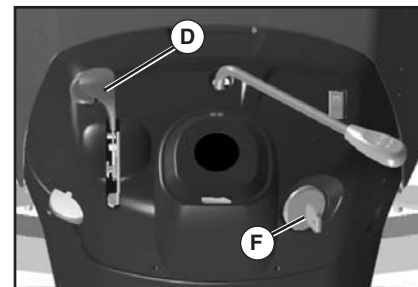

FIG. 6
### TO USE THROTTLE CONTROL (D) (See Fig. 6)